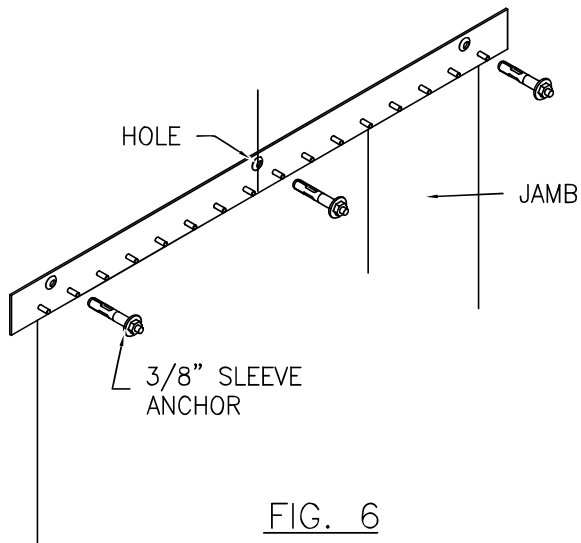

FIG. 6
- Drill through mounting holes in PVC angle - use $\text{Ø } 3/8''$ concrete drill bit (Fig. 6).
- Insert $3/8''$ sleeve anchors and tighten with $1/2''$ socket driver bit (Fig. 6).